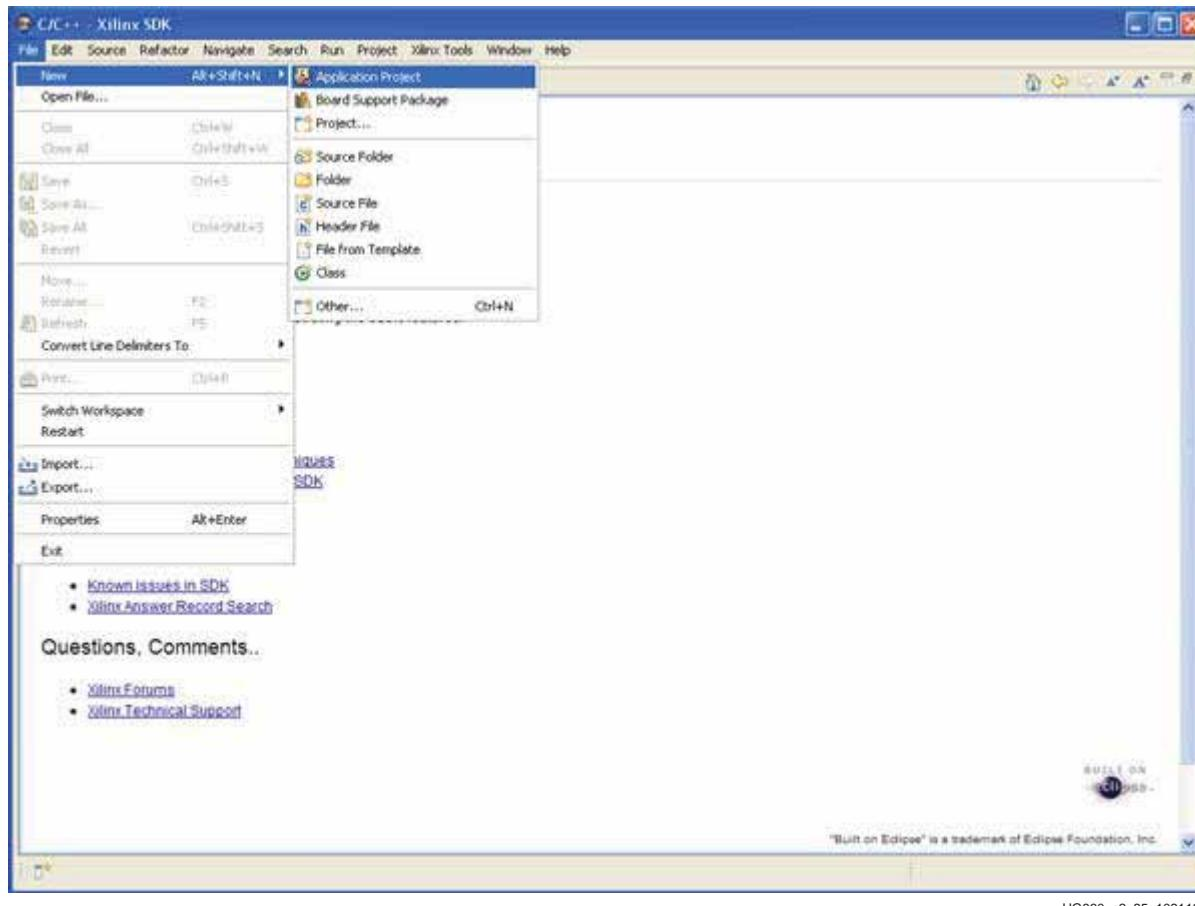

Figure 2-35: Selecting New Application Project
1. Click **File > New > Application Project** as shown in Figure 2-35.